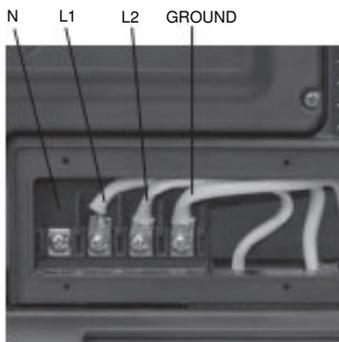
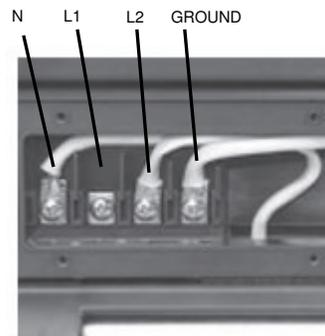

Figure 4
Figure 5
5. Unscrew the L1 wire from the terminal post (figure 4), then reconnect it to the Neutral terminal post (figure 5).